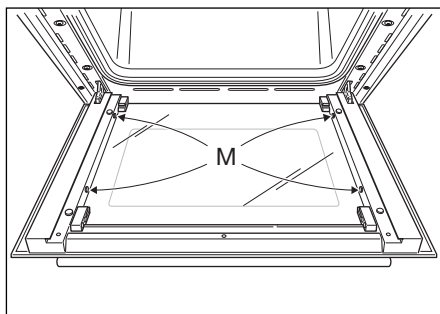

Fig.49a
- Check that the four rubber pads are in place ("M" in Fig. 49a).